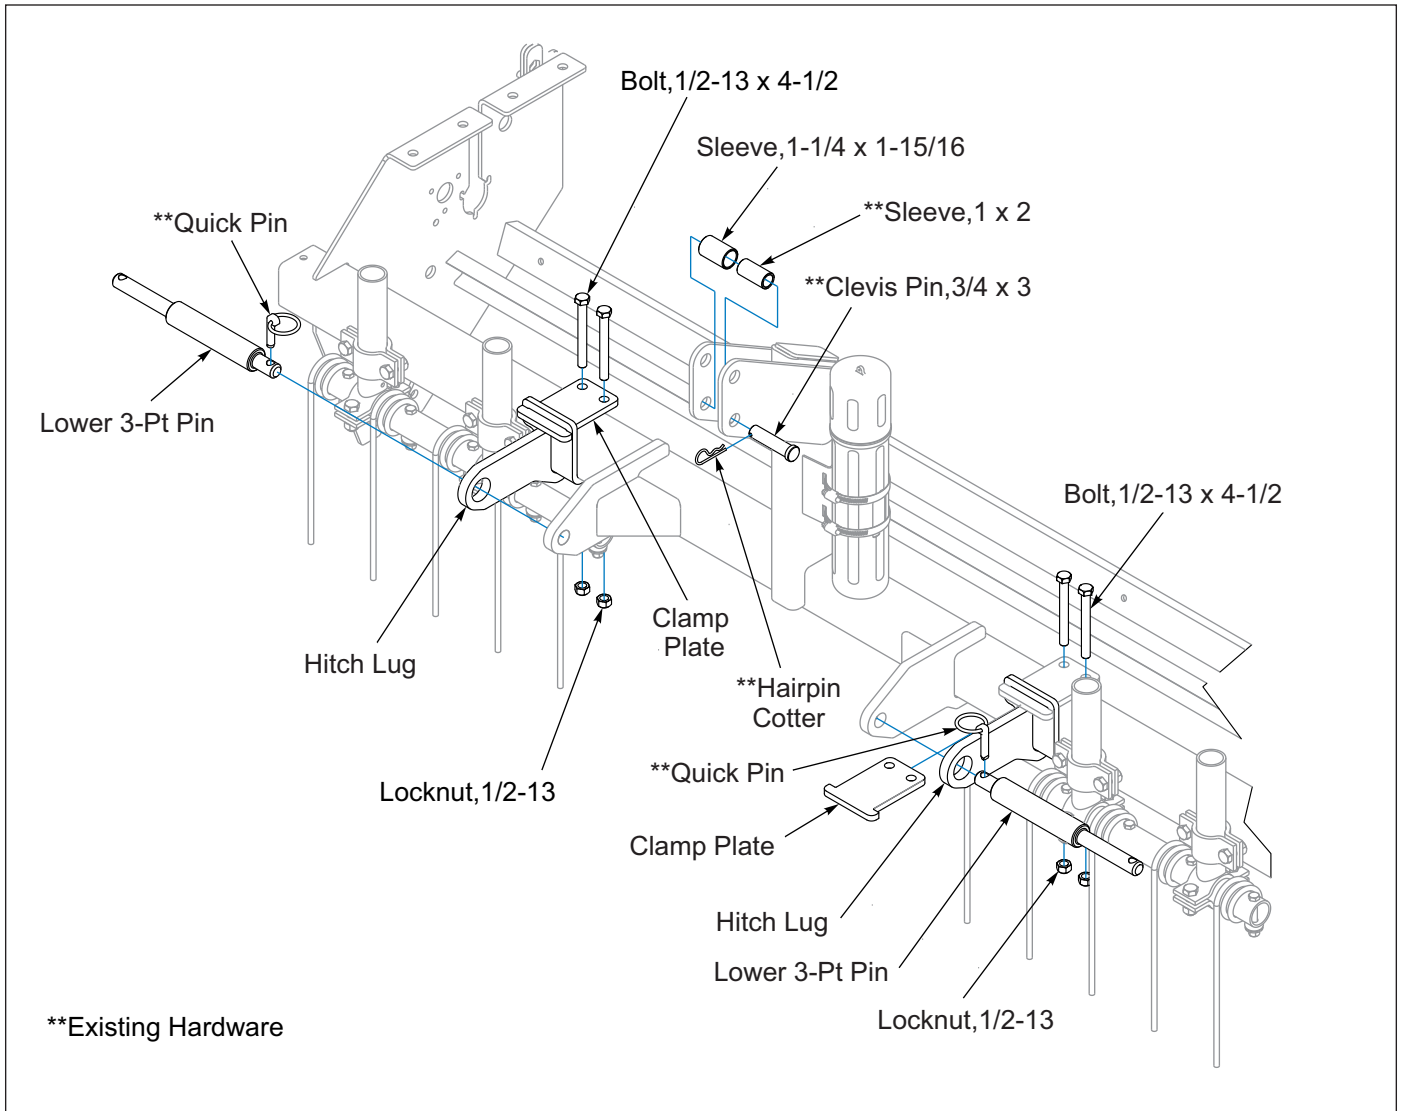

Figure 2-3: CAT2 Quick Coupler Hitch Adaptor Kit - Optional
2. Attach the Hitch Lugs to the front of the Seeder Frame tube and position the Hitch Lugs 6" outward from each Seeder Frame Lug. **See Figure 2-3 and 2-4.** Insert the Clamp Plate into the Hitch Lug and over the top of the Seeder Frame tube. Secure with 1/2-13 x 4-1/2 Bolts and Locknuts.